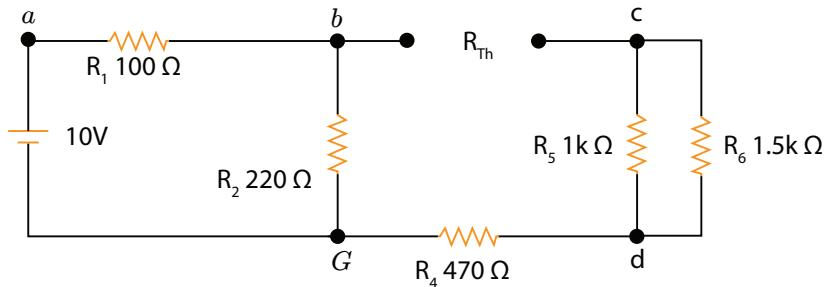

Figure 4.3.3: The equivalent circuit of Fig. 4.3.1 as seen from terminals *b* and *c*.
2. Repeat the same calculation, assuming R_3 is the load resistance, as shown in Figure 4.3.3.